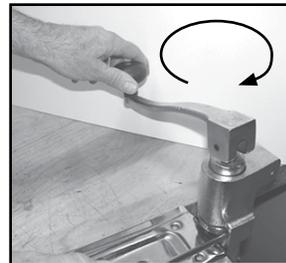

Figure 12
7. Turn handle clockwise to screw on. Do not over tighten. (Figure 12)